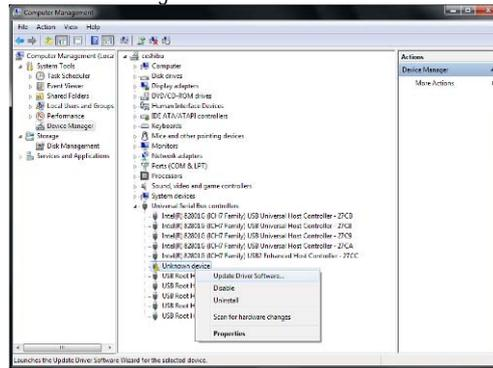

Figure 5-7
1. Connect the Cresetter, open Computer Management, window appears as shown in Figure 5-7: